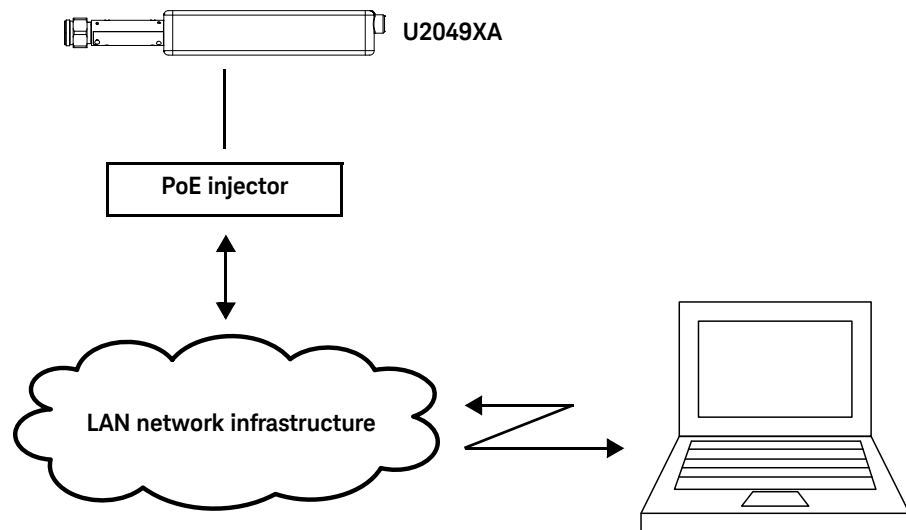

Figure 1-5 Connect the U2049XA via dynamic IP
- 1 Set up the connection as shown in **Figure 1-5**.